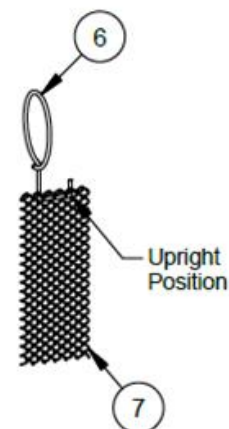

Figure 4d
Step 5: Return the Hook (6) to its upright position. (Fig. 4d)